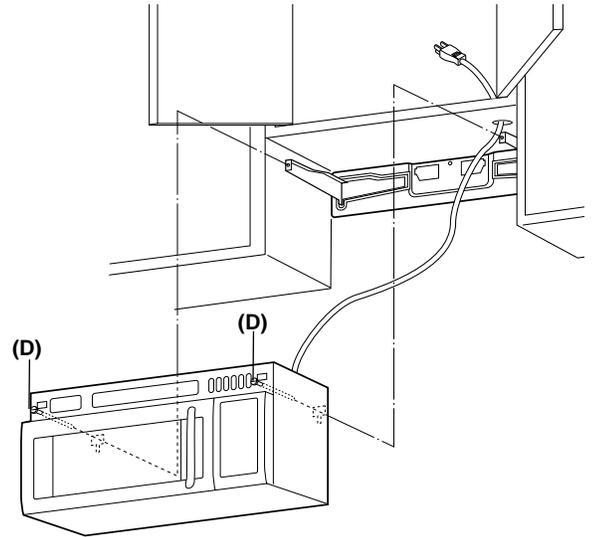

Figure 18
2. Install the oven by sliding it onto the arms of the Mounting Plate. Push it all the way to the wall. See Figure 18.
3. Tighten two Mounting Screws (D) located in the oven faceplate. See Figure 18.